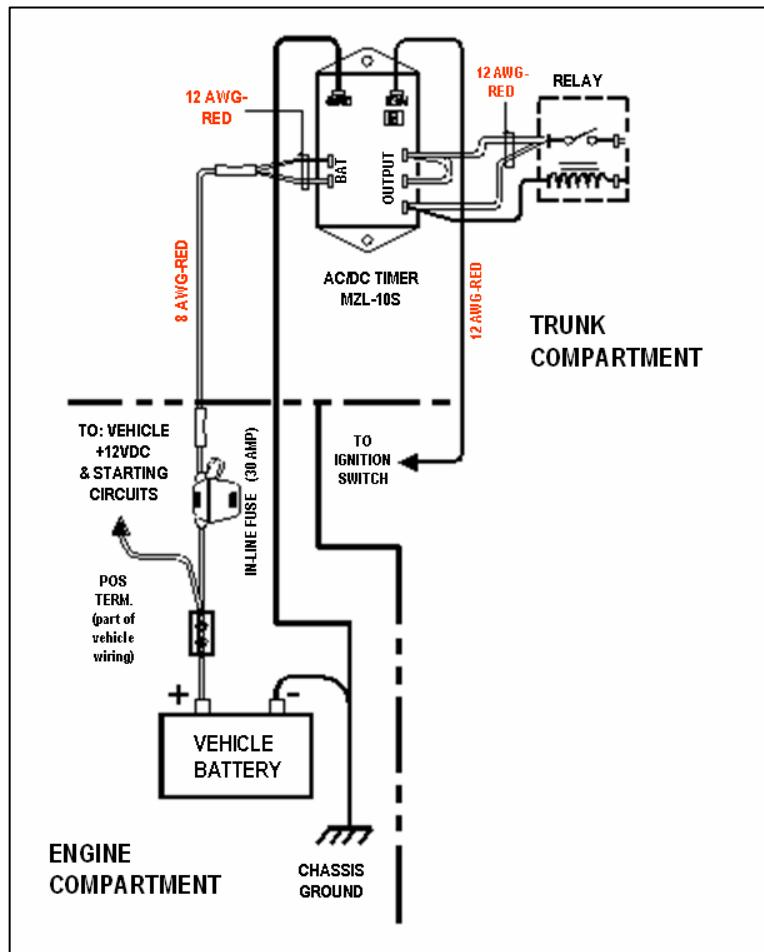

Figure 8: Delay Timer Installation
**Step 2** Route the black wire (#12 AWG) from ground connection on the Delay Timer to the vehicle chassis (see Figure 8).